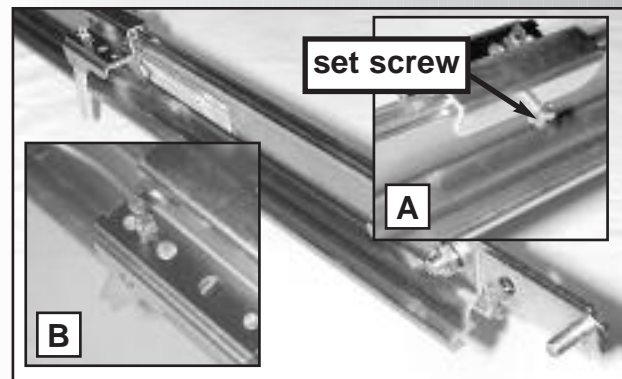

Fig. 1-9
- Place “CLOSE” limit switch over top of boom about 12 inches from boom strap. **Fig. 1-9.**